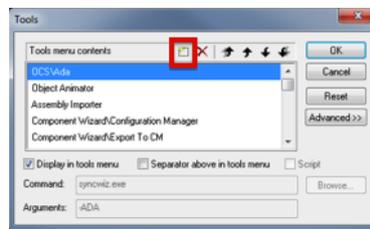

Figure 17: Tools dialog with the button to include a new tool highlighted.
3. Click the button indicated in Figure 17 to include a new tool